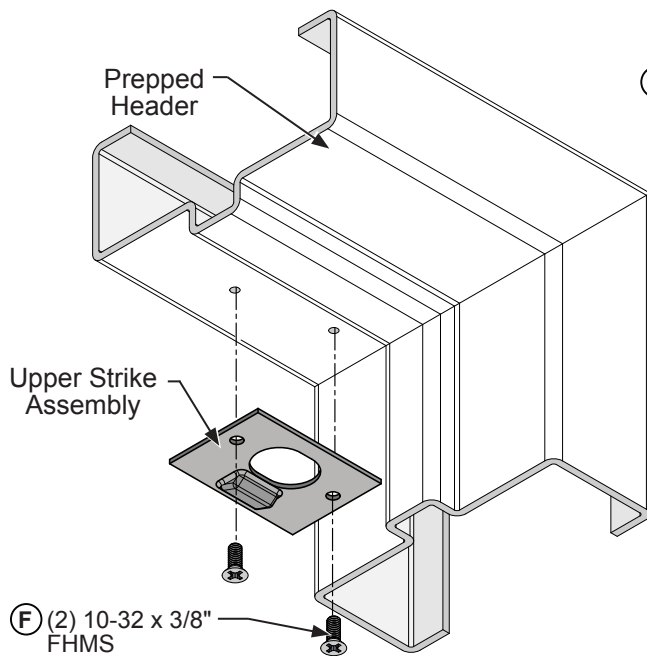
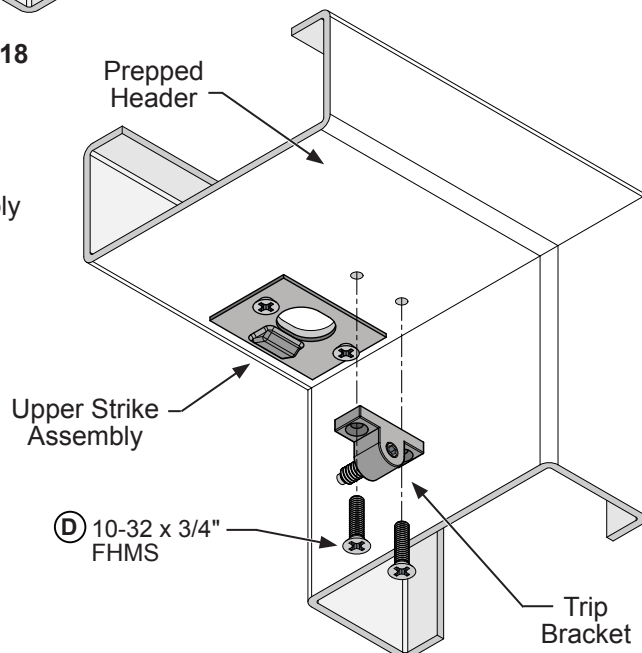

FIG. 18
FIG. 20
1. Drill and tap for (F) (2) 10-32 x 3/8" FHMS on the mark made in step 2 of the frame preparation on page 16. Attach the upper strike to header using (F) (2) 10-32 x 3/8" FHMS (Fig. 18). If the header does not have a door stop attach the trip bracket provided to the header using (D) (2) 10-32 x 3/4" FHMS (Fig. 20).